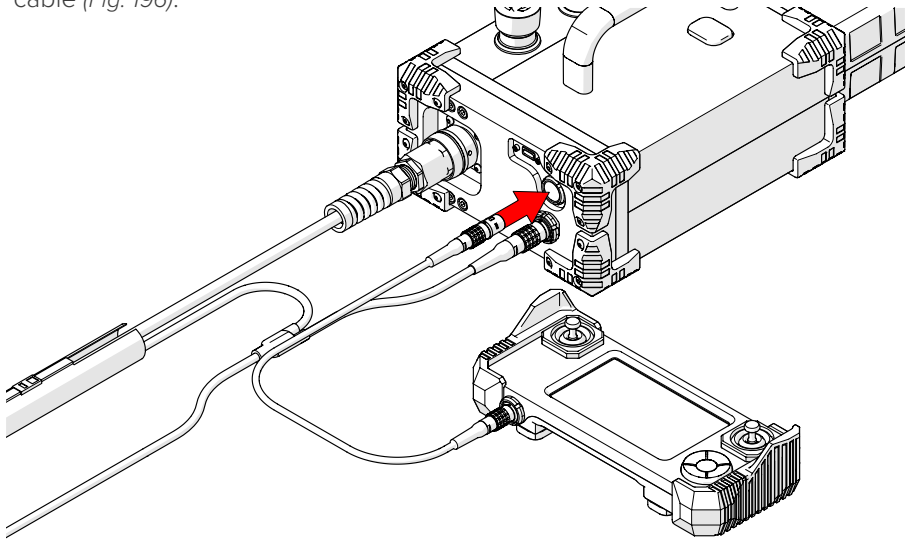

Fig. 196 - Connect handheld controller to power controller
17. Connect the handheld controller to the power controller using the auxiliary cable (Fig. 196).